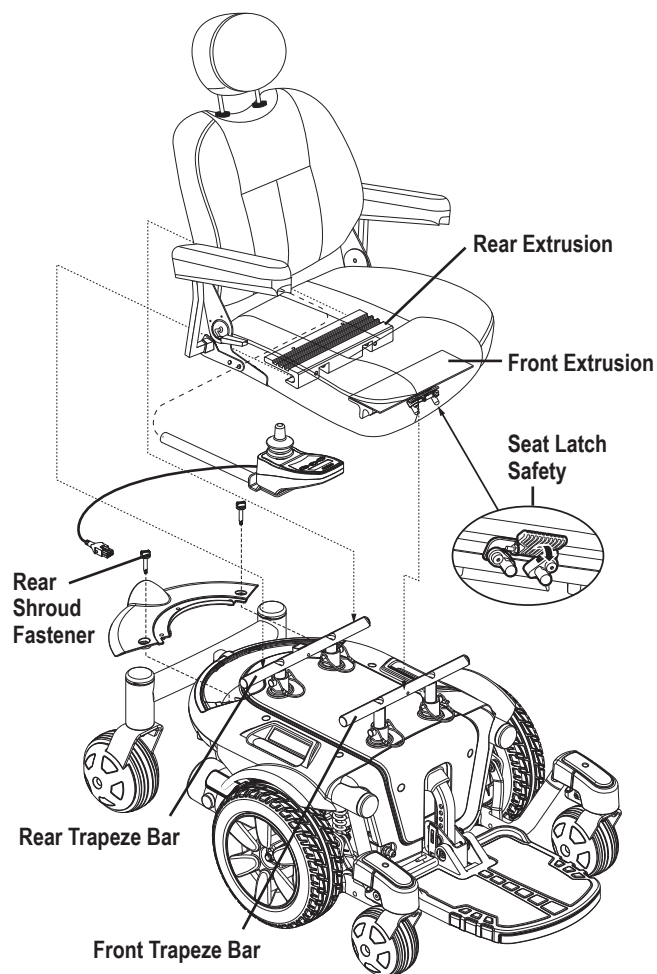

Figure 5. Universal Mounting System
It may be necessary to install the seat either prior to initial operation or after transporting your power chair. Most seats are attached to the power base with the Universal Mounting System (UMS). The UMS consists of universal parts that may be attached to any medium-back or high-back seat, regardless of seat width or seat depth. The two main components are aluminum extrusions mounted to the seat base. These extrusions attach to a pair of trapeze bars that are mounted to the power base. See figure 5.
1. Tilt the seat back and slide the rear extrusion onto the rear trapeze bar. **See figure 5.**
3. Flip the seat latch safety down. **See figure 5.**
5. Loosen the rear shroud fasteners and remove the rear shroud. **See figure 5.**
3. Loosen the rear shroud fasteners and remove the rear shroud. **See figure 5.**
2. Loosen the rear shroud fasteners and remove the rear shroud. **See figure 5.**